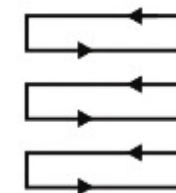

Fig. 19
12. Work in slight overlapping rows. The most effective pattern for processing lawns is straight lines along one of the sides. This will keep the rows even and ensures that all the lawn is processed without missing any spots. (Fig. 19)